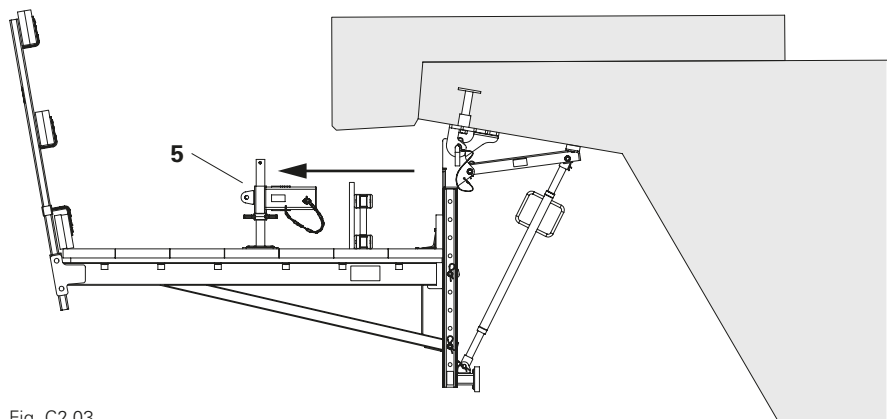

Fig. C2.03
1. Remove Formwork Post VGK 70 (7) and Kicker AV 82 (2a).
3. Remove Formwork Supports VGK 100 (6).
4. Remove Formwork Fixing-2 VGK (5) and internal formwork. (Fig. C2.03)